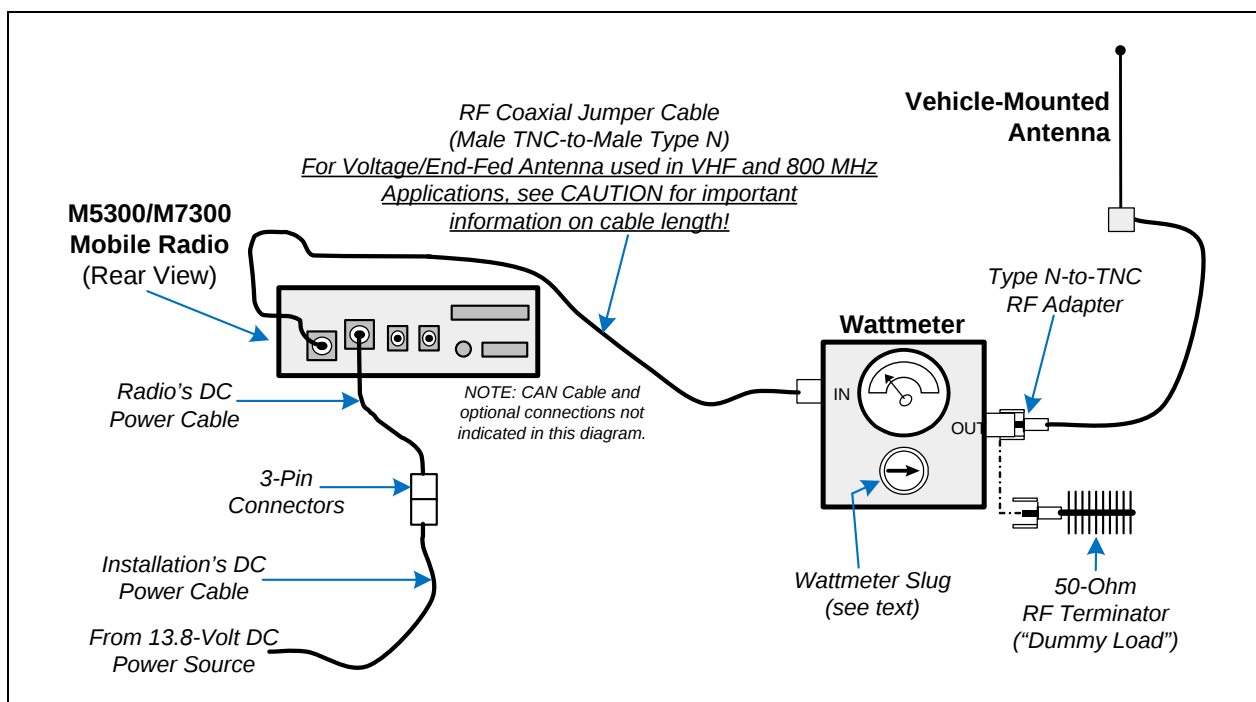

Figure 15-2: Wattmeter Connections for Antenna System Tests
1. Using the Type N male to TNC male RF coaxial jumper cable, connect the radio's antenna connector to the wattmeter's input connector. Refer to Figure 15-2 as necessary.
1. Connect the antenna cable from the vehicle-mounted antenna to the wattmeter as shown in Figure 15-2.